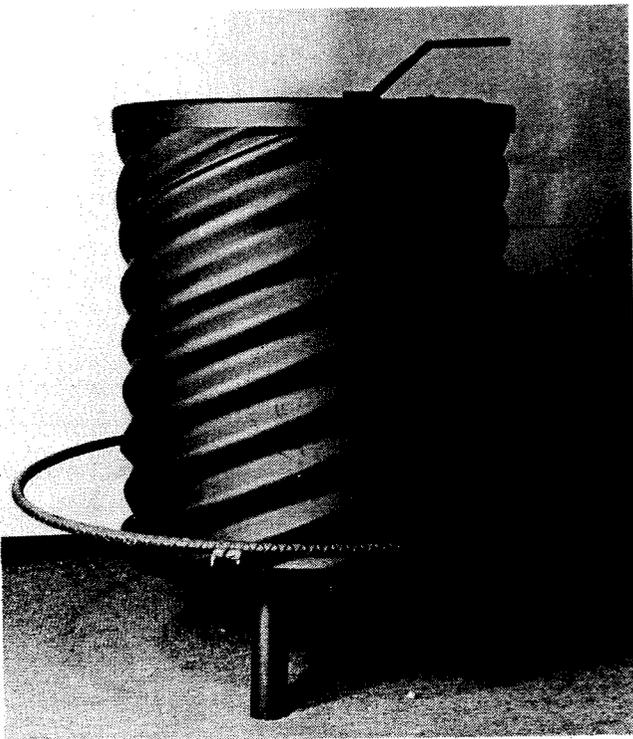

Fig. 75. The Culvert Queen cylindrical radiant stove.
24. **The Stoveworks** (manufacturer), Box 172, Marlboro, VT 05344. The Culvert Queen (Fig. 75 and Table 9) is built on the same combustion principle as the Mohawk Tempwood stoves—a bonafide downdraft principle. The corrugated body makes the surface area approximately 10 percent greater than a simple cylinder of similar dimensions. It also adds to the strength of the body.